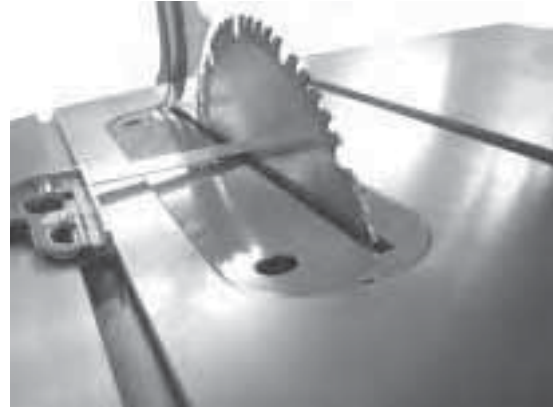

Figure 17
To check and align the blade (refer to Figure 17):
3. Choose a tooth on the far side of the blade (towards the rear) and position the tooth slightly above the table insert. Mark the tooth with a marker. Measure the distance from the side of the blade to the right T-slot edge using a combination square. Make sure to measure between the teeth not on the tooth (Figure 17).